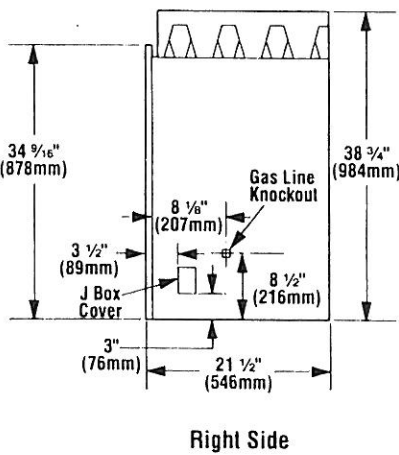

Figure 11
**Step 5.** Fireplace should be secured to side framing members using nailing flanges. Use 8d nails (Figure 11).